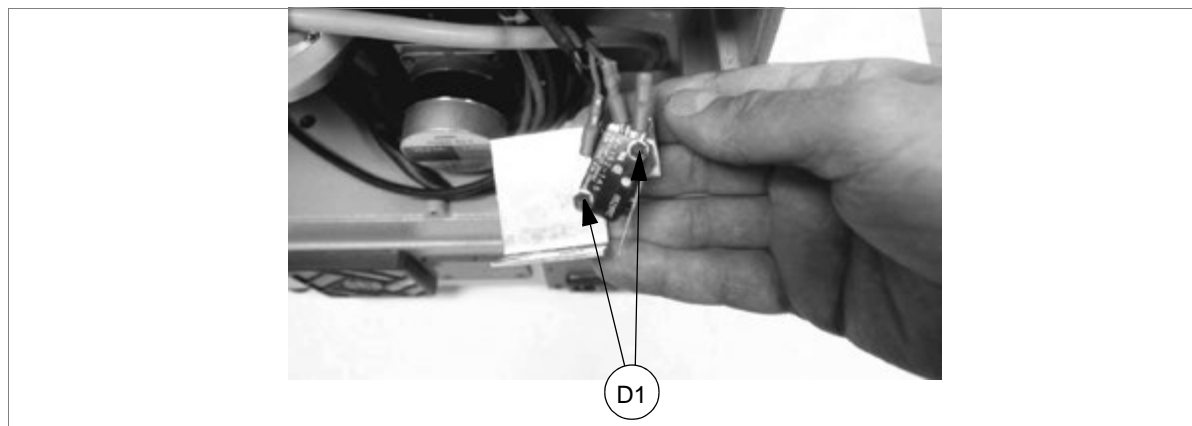

Fig. 84
- 4) loosen the two nuts (D1) (fig. 84) and replace the faulty part.